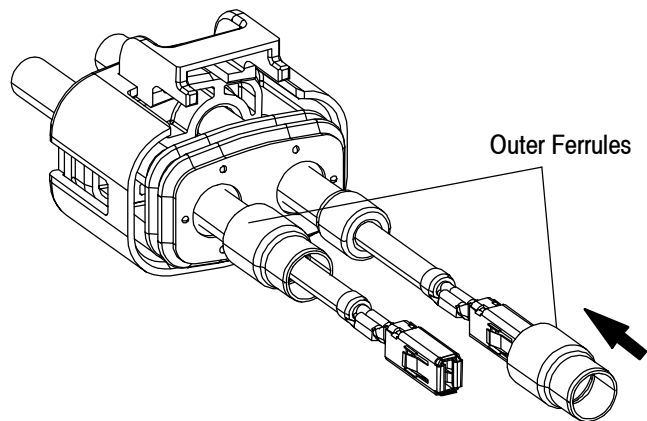

Figure 9
8. Insert the outer ferrules 1587829-[] onto both cables in the orientation shown in Figure 9 over the inner ferrules and folded back braided cable shield. Wire sizes 2.0-2.5 mm² accept (Outer Ferrule - Size A); 3.0 accept (Outer Ferrule - Size B), and 4.0 mm² accept (Outer Ferrule - Size C).